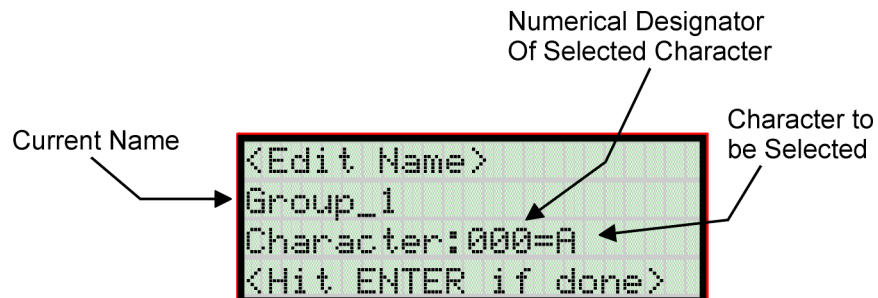

Figure 7-7 Selecting Character for Zone Name
7. To edit the group name, press **1**. A screen similar to the one shown in Figure 7-7 displays.